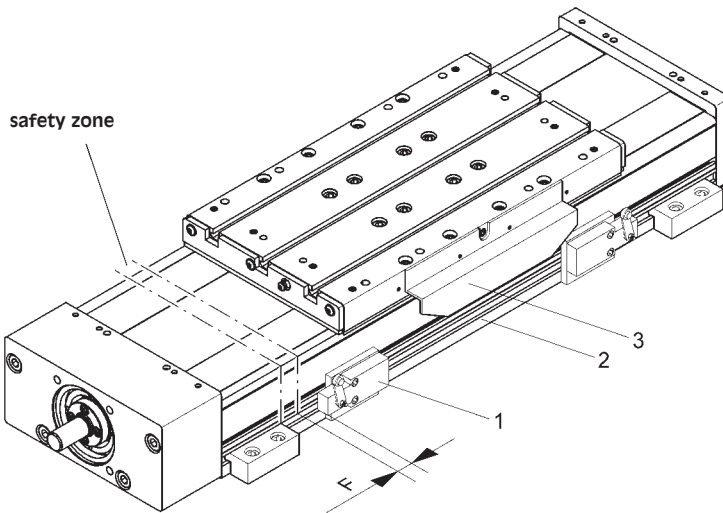

Fig. 6
1. **Fig. 6:** Loosen the setscrew for mechanical limit switch (1).
2. Slide the limit switch (1) to the desired position in the aluminium tubular section (2).